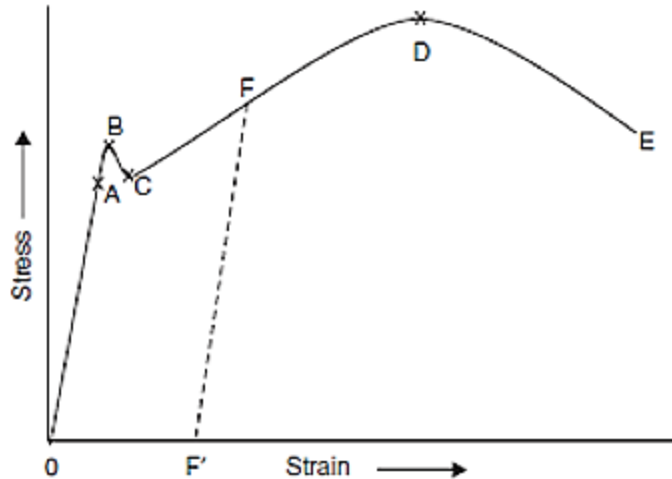

Figure 3
- b. Figure 3. Shows stress *vs* strain diagram for the typical mild steel specimen. State and explain the following salient points(A,B,C,D,E) which are observed on stress-strain curve: **[12 marks]**